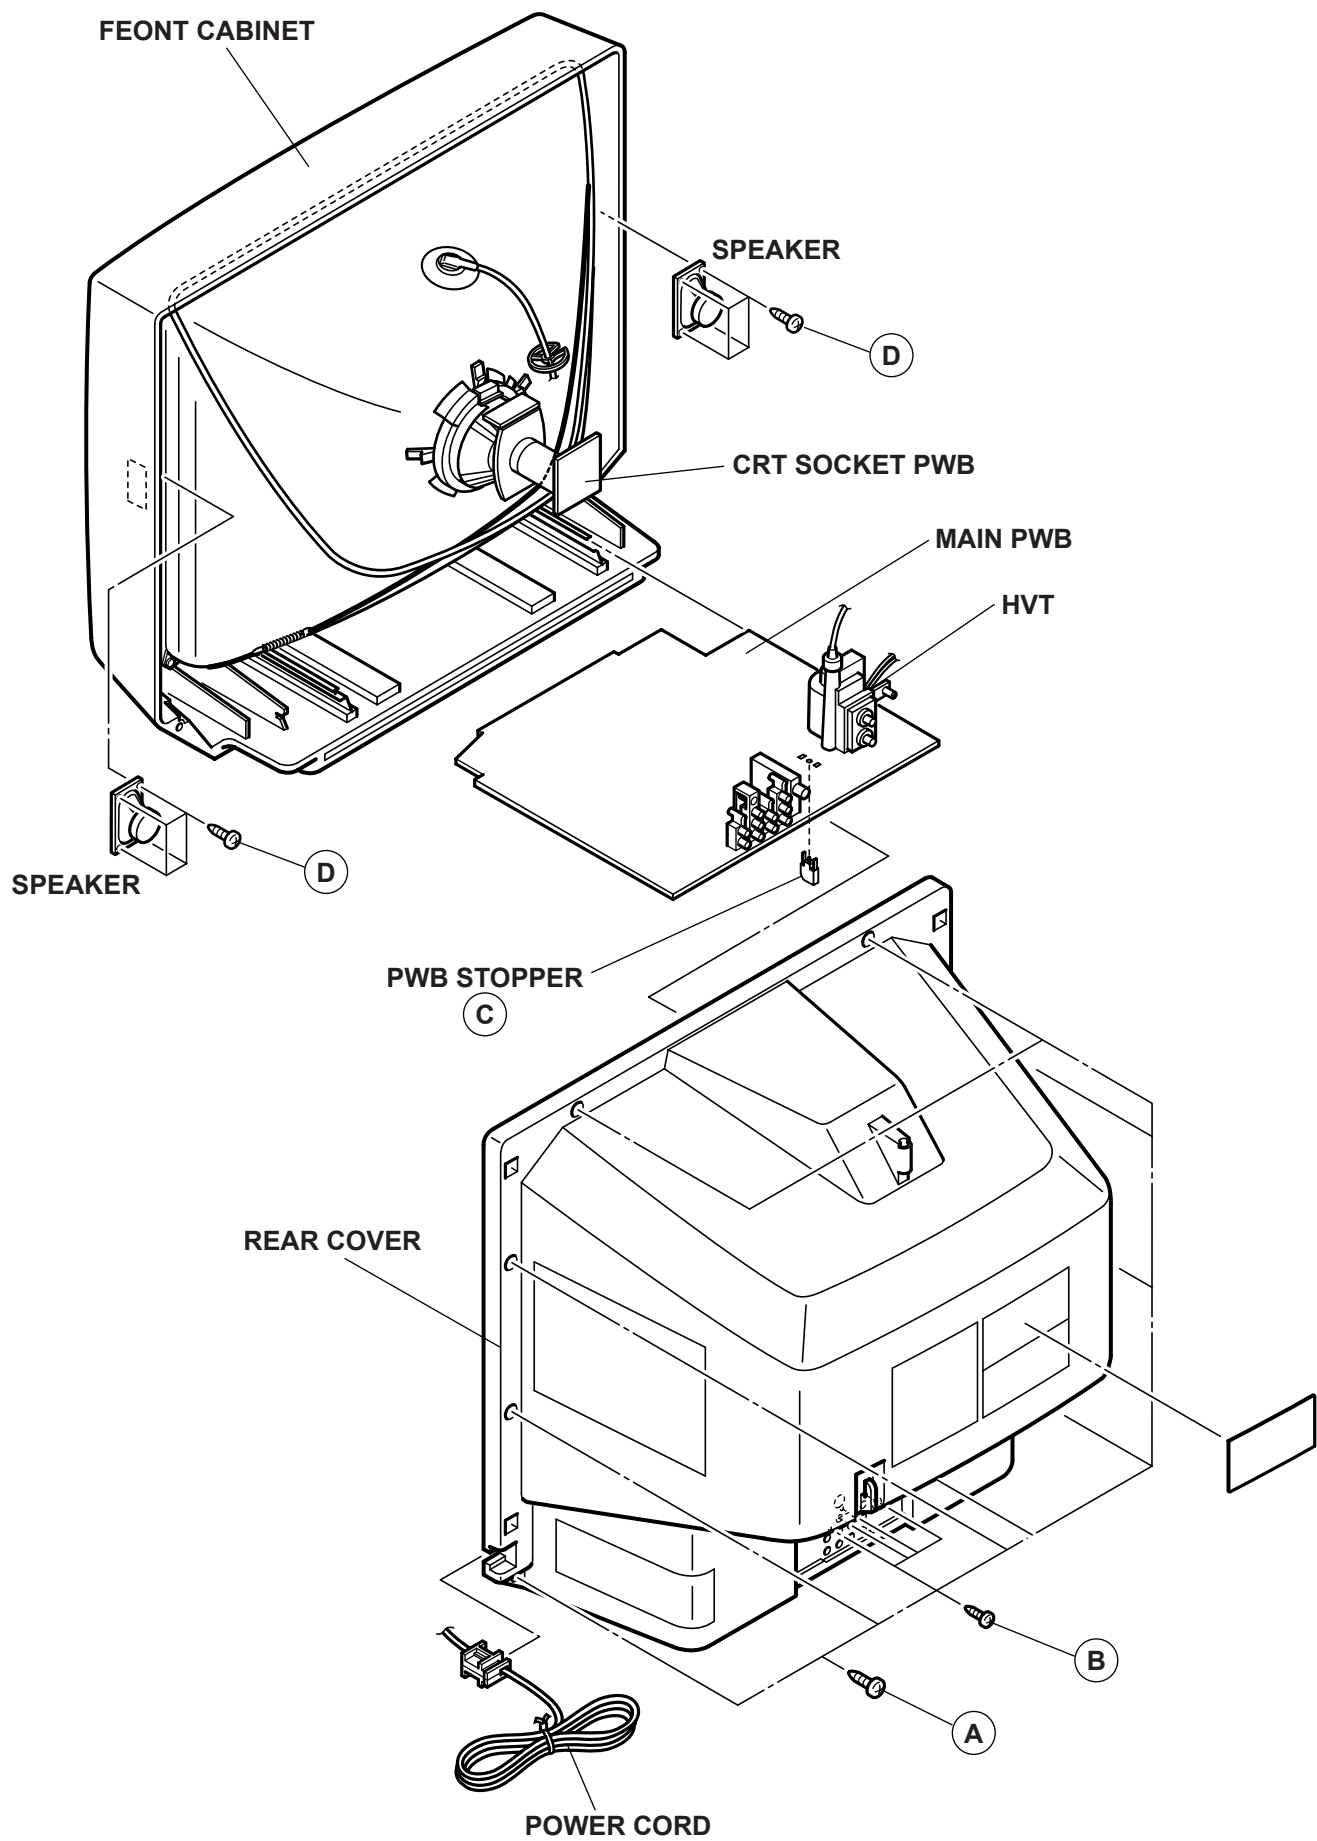

Fig.1
- (1) Unplug the power plug.
- (2) As shown in the Fig.1, remove the 9 screws **[A]**.
- (3) As shown in Fig.1, remove the 4 screws **[B]**.
- (4) Then remove the REAR COVER toward you.
- (1) As shown in Fig.1, remove the 4 screws **[D]**, then remove the speaker.
- (2) Follow the same steps when remove the other hand speaker.